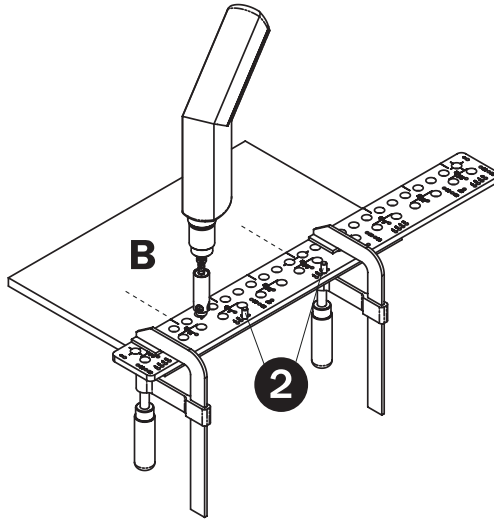

Fig. 16
Insert two pins (**pos. 2**) in one of the holes 3 - 6 (according to the chosen distance of the pivot from the edge) using the spacing corresponding to the hinge chosen (**Fig. 16 & 17**). Position the **CMT900** on the work piece, so that the central axis of the chosen hinge spacing on the template is aligned with the central axis on the work piece and the stops are up against front edge of the work piece. Use the **CMT400-1** adaptor chuck with a drill bit for blind holes with $\varnothing 3\text{mm}$ for wood screws, $\varnothing 5\text{mm}$ for euro screws or $\varnothing 8\text{mm}$ for fast plugs.